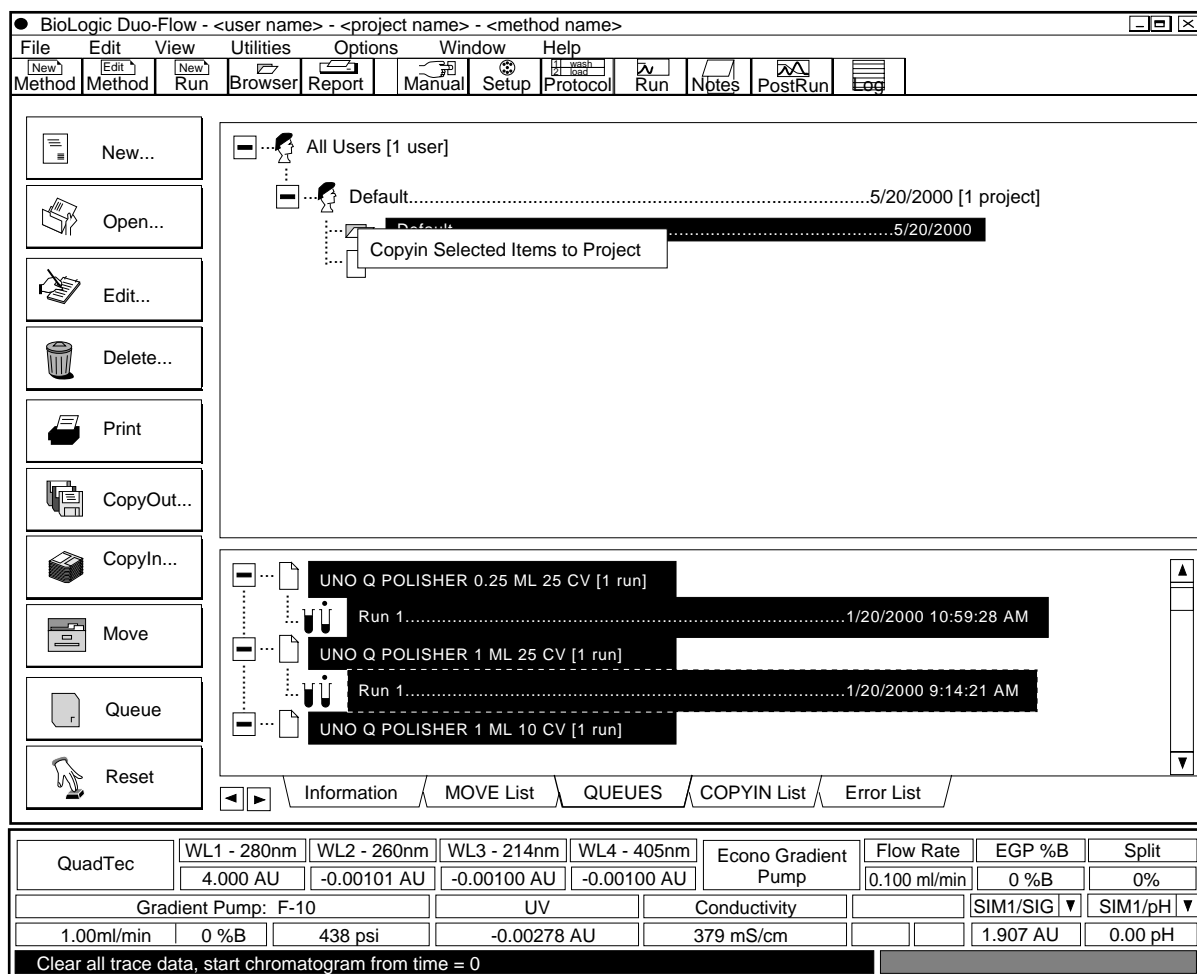

Figure 6-3. CopyIn with Information in Browser Tab Window
- b. From the COPYIN List in the Browser Tab window, select the desired methods and runs. All methods and runs in the file are displayed in the COPYIN List. (See Figure 6-3.)